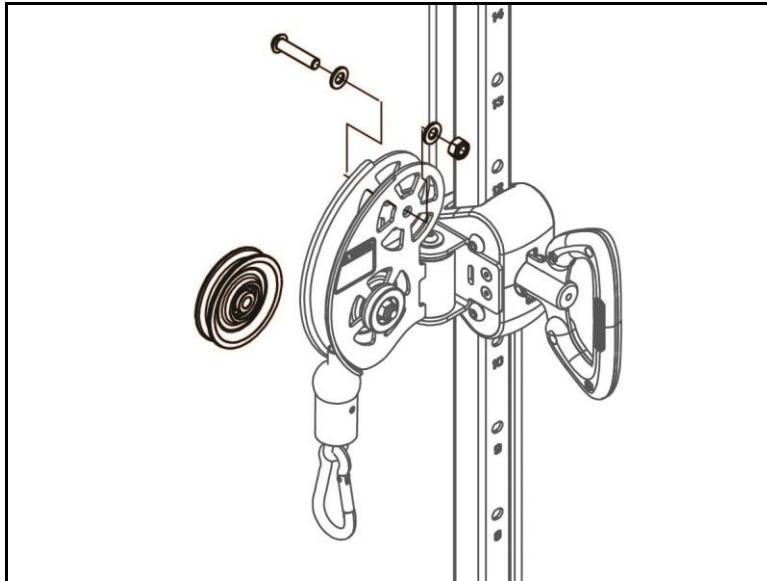

Fig. 1
1. Remove the upper pulley from the pulley bracket housing (Fig. 1) using a 6mm hex key to remove the button head bolt and 17mm open wrench to remove the nylon nut.